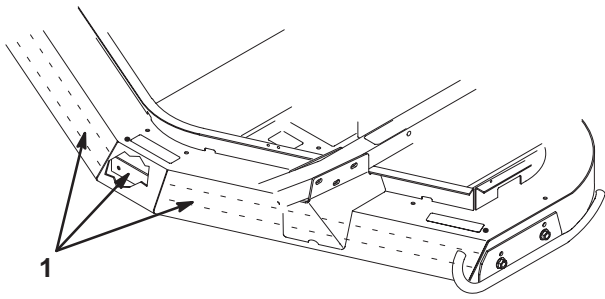

Figure 22
1. Loosen the fasteners securing the front and side baffles to deck straps (Fig. 22).